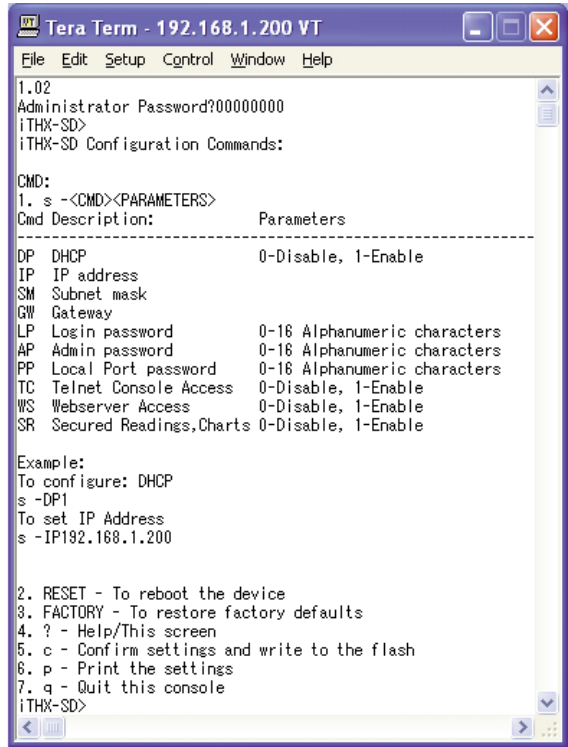

Figure 4.38
Once the connection is established you will be prompted for an Administrator Password (default is 00000000). Telnet console port (2002) allows users to configure some parameters within the iServer. **Figure 4.38** shows the parameters that can be changed.
- ?** displays all the available options as well as an example on how to enter a command (**Figure 4.38**)
- s** set a new configuration (see the example in **Figure 4.38**), sending the command **c** is required to permanently store the new settings